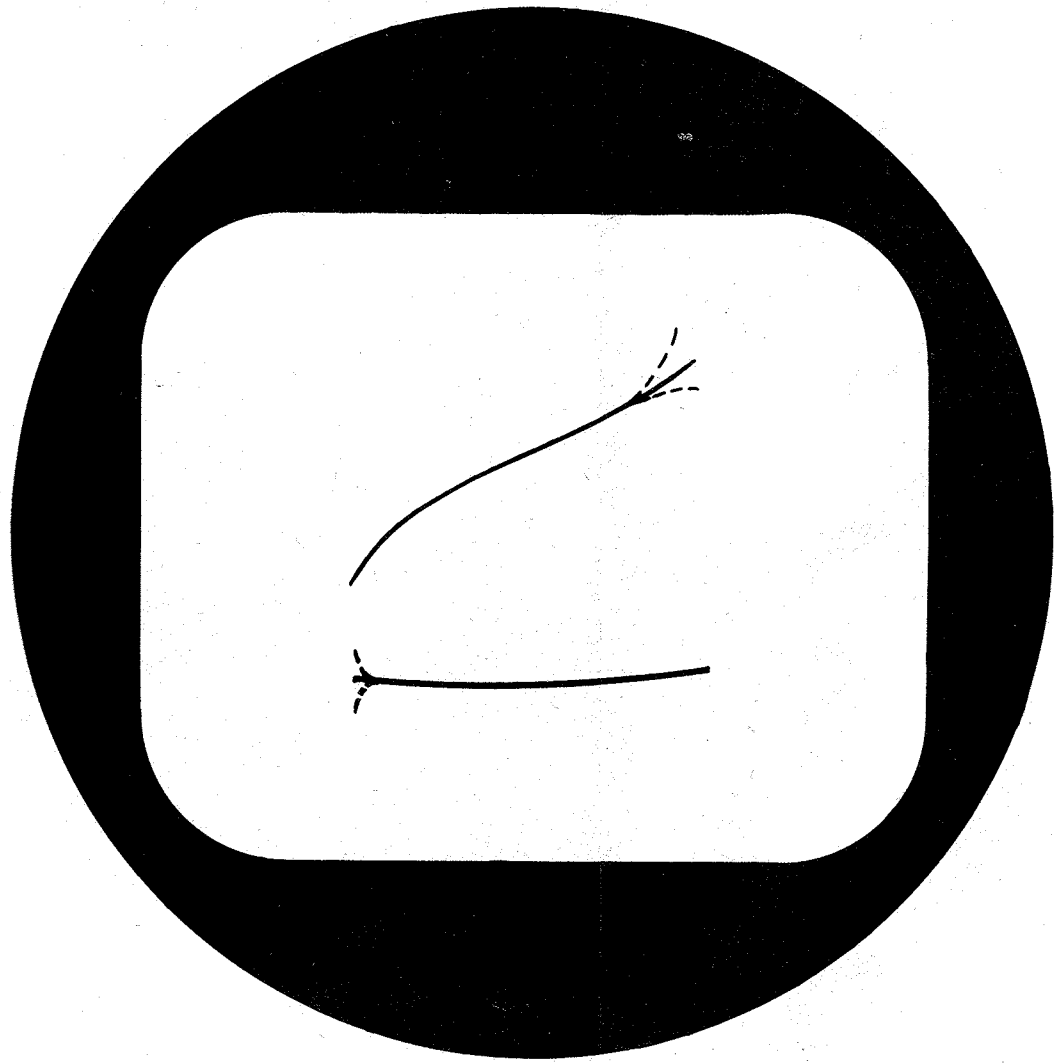

FIGURE 13
Illustration: Figure 13.
- () Slowly turn the SWEEP VERNIER counter-clockwise until a single trace appears and remains stationary. It will appear as in Figure 13.
- () Identify trimmer capacitor C-1, one end of which is attached to the orange wire from the V INPUT CONNECTOR. Adjust C-1 so that the ends of the fine diagonal line terminate abruptly without twist. The effects of improper settings are shown dotted in Figure 13.
- () Identify trimmer capacitor C-3 on the V RANGE switch S-1. It is the one closest to the metal shield. If you touch C-3 with a metallic screwdriver where it connects to wafer #2, the CRT trace will become distorted, thus it can be positively identified. Adjust C-3 with an insulated screwdriver to again remove any "tails" or spikes from the trace as shown by the dotted lines in Figure 13. If necessary, readjust C-1 to obtain the desired trace.
- () Set the V RANGE switch to position "20" and adjust V CAL for a pattern about 1-inch high. The scope pattern will appear as in Figure 13.
- () Identify C-5 by touching the metallic screwdriver and noting distortion of trace. Turn C-5 adjustment screw clockwise and note spike as shown in Figure 13—the back off to point where spike disappears.